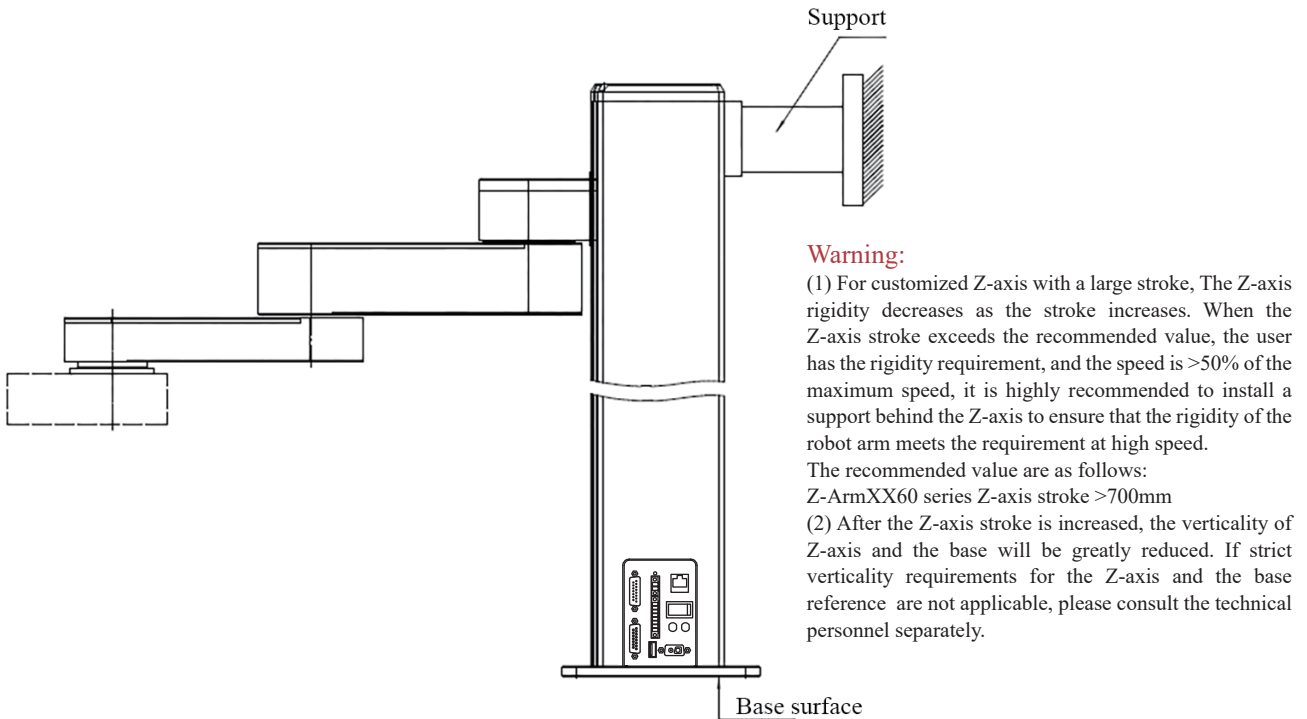

Figure 11
4. Notes for installation of customized Z axis, see Figure 11 for details.